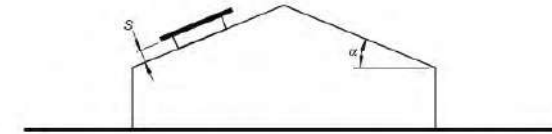

FIGURE D8 PANEL MOUNTED PARALLEL TO ROOF PLANE
- Panels with a minimum distance between panel and roof edge of $2s$ where s is the gap between the underside of the panel and the roof surface, as shown in Figure D8 (roof edge includes ridges with pitch $\geq 10^\circ$).
The aerodynamic shape factor (C_{fig}) for calculating net pressures for solar panels satisfying the above conditions, as shown in Figure D8, is given in Table D11. The aerodynamic shape factor (C_{fig}) contains local pressure and area reduction effects for calculating net loads on individual panels installed as part of an array of panels in the areas of the roof identified in Figure D9.